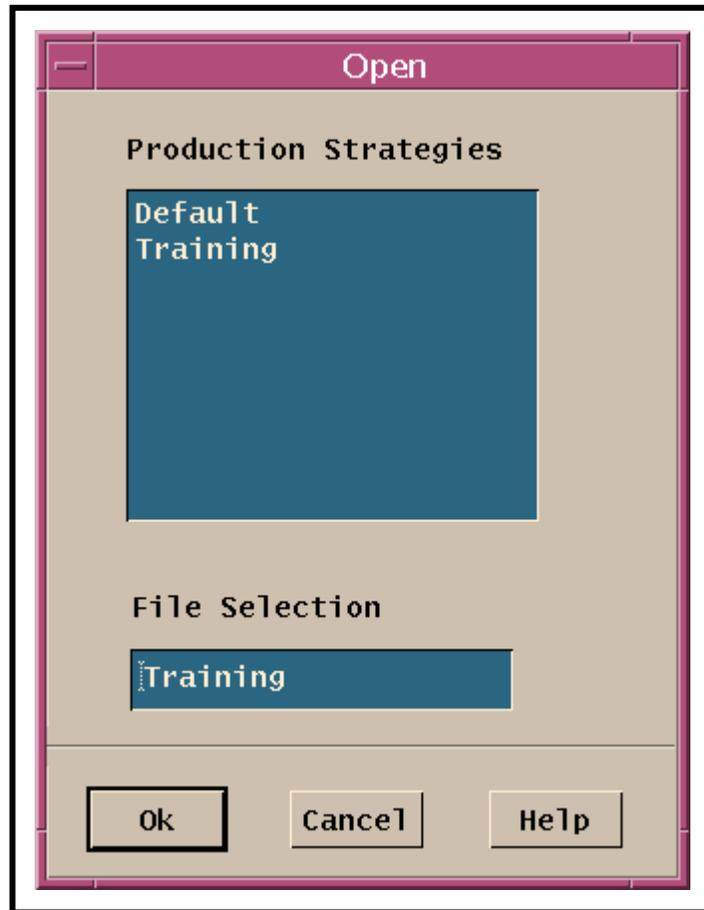

Figure 41. Production Strategies “Open” Window
- Alternatively, it is possible to select **File** → **Open** from the pull-down menu, select the desired production strategy from the list on the **Open** window (Figure 41), and click on the **Ok** button to open the production strategy.